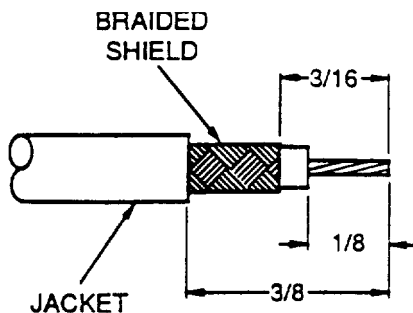

Figure 30. Prepare Cable
a. As shown in Figure 30, cut cable end square with wire/cable cutters. Strip 3/8-inch of cable jacket, 3/16-inch of braided shield, and 1/8-inch of insulation from center conductor. Twist center conductor to prevent splayed wire strands.